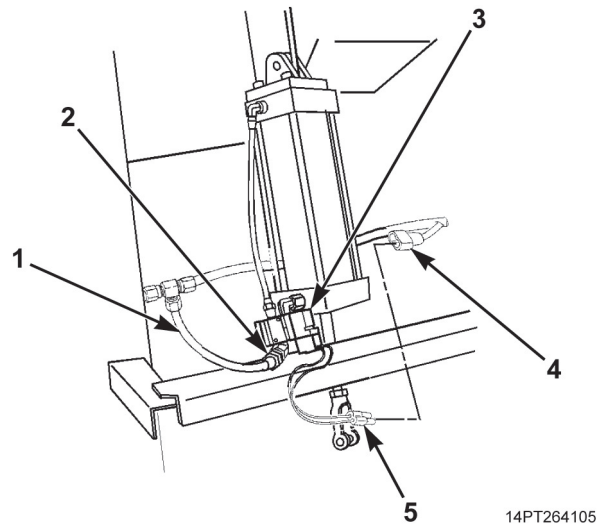

Figure 3. Solenoid Connection Installation.
3. If removed, install elbow (Figure 3, Item 2) on air cylinder solenoid (Figure 3, Item 3). Connect air line (Figure 3, Item 1) to elbow.
4. Connect solenoid connector (Figure 3, Item 5) to MCS tailgate wiring harness connector (Figure 3, Item 4).